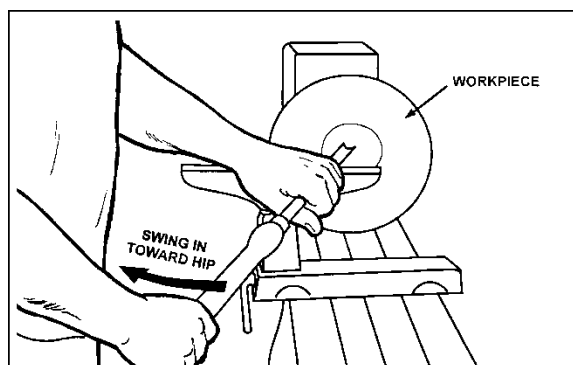

Figure 10-11
5. Place 1/2" bowl gouge on tool support at center of the workpiece with the flute facing top of bowl. The tool handle should be level and pointed toward the four o'clock position, as shown in Figure 10-11.